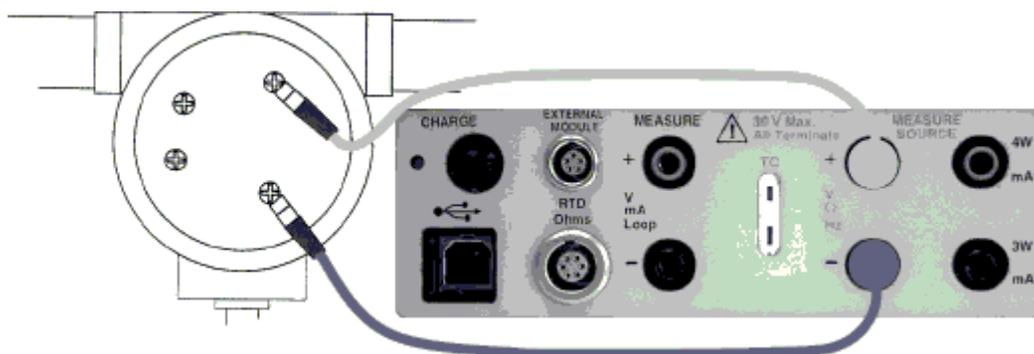

Figure 14: Connections for Outputting RTDs
- Connect the calibrator to the instrument being tested (shown in Figure 14).